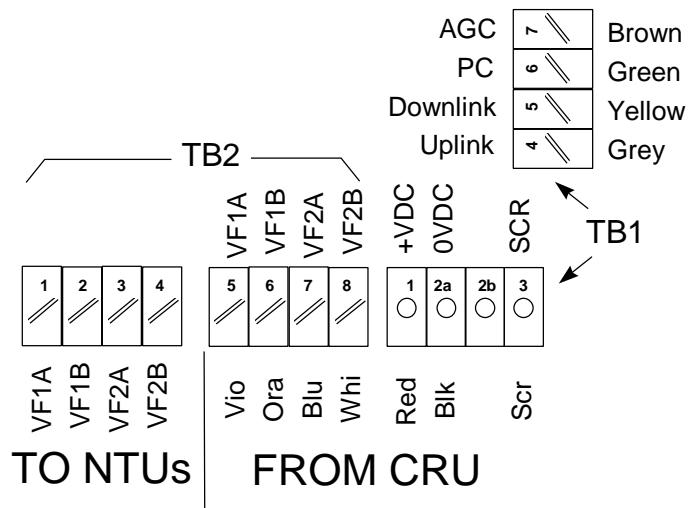

Figure 24. ST-V2 Drop Cable Connections to Type-4 PSU
1. At the PSU punch down the wires of the drop cable, to the IDC terminal blocks (TB1 & TB2) using an Auto Trim Termination Tool and connect the DC and screen to the Wago block. The Figure 24 below, illustrates the connections of the drop cable to the connector blocks inside the PSU. If using 6 pair cut surplus wire and strain relief wires at the butt